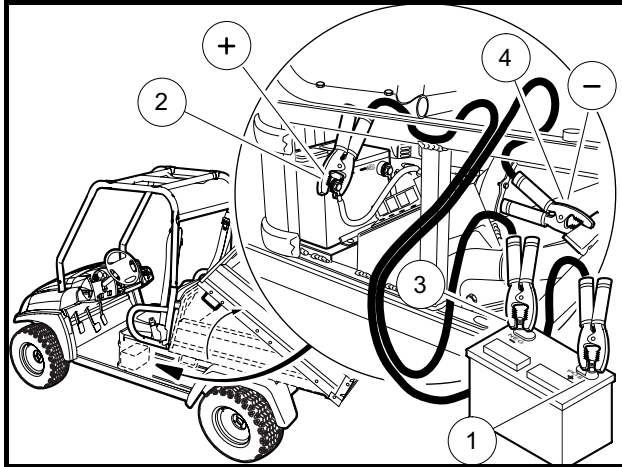

Figure 38 Jump Starting
4. Locate the vehicle battery on the driver’s side of the vehicle under the cargo bed (**Figure 38**).
5. Connect the end of the first cable (1) to the positive (+) terminal of the booster battery. Connect the other end of the same cable (2) to the positive terminal of the vehicle battery. **See DANGER “Battery – Explosive gases!...” on page 9.**
6. Connect the end of the second cable (3) to the negative (–) terminal of the booster battery. Connect the other end of the same cable (4) to the battery frame ground.
8. After the engine has started, remove the frame ground (–) cable (4) first. Remove the cable from the positive terminal (2). Then remove the cables from the booster battery. **See following CAUTION.**